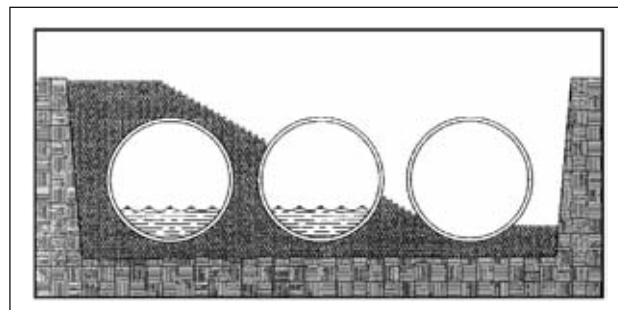

FIGURE 19-2
19.3.1. If the preferred method outlined above is not practical, an alternate method (FIGURE 19-2) is the following: